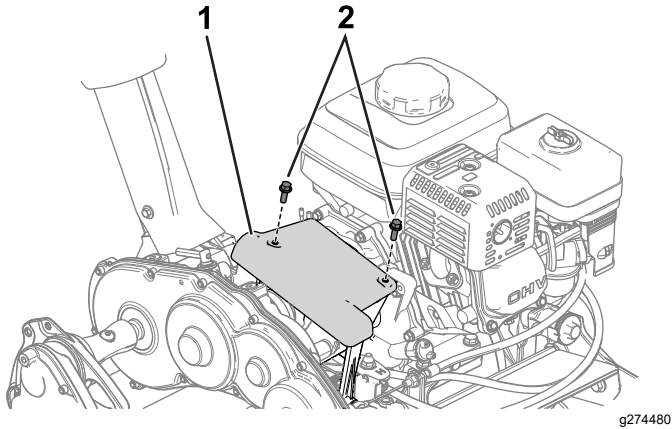

Figure 29
1. Access the friction disc and pressure plate by removing the clutch cover (Figure 29).